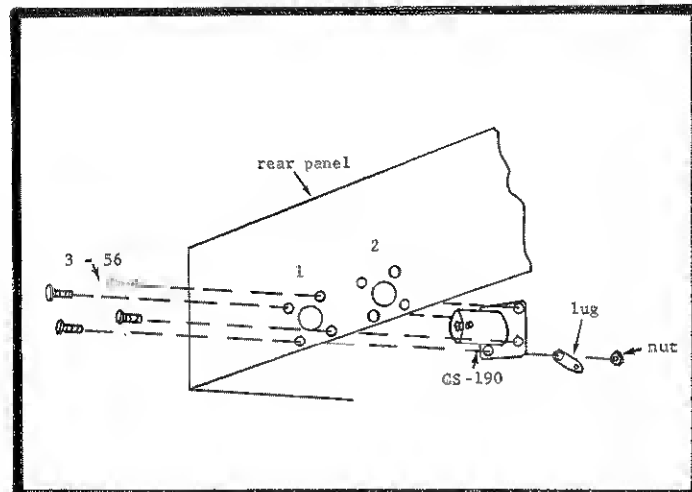

FIGURE 3. MHV Sockets Mounted to Model 246. The sockets, located in the rear panel, are used for remote programing.
a. Remove the plate over the punched holes on the Model 246 rear panel. These holes accept MHV connectors (No. UG-931/U, manufactured by most connector companies; Keithley part number CS-190). Mating connectors are UG-932/U (manufactured by most connector companies; Keithley part number CS-191). Use a lug to ground the shields of the cables to the Model 246 chassis as shown in Figure 3. Use 3-56 screws and nuts to fasten the connectors to the rear panel; if not available, 2-56 screws and nuts are sufficient. Relocate the ac wires at the inside rear panel so that the connectors can be installed.
1. Attach the center conductor of Cable #1 (end A) to the center pin of connector #2 (refer to Figure 3). Connect the shield of the cable to the ground lug.
- a. Remove the plate over the punched holes on the Model 246 rear panel. These holes accept MHV connectors (No. UG-931/U, manufactured by most connector manufacturers; Keithley part number CS-190). Mating connectors are UG-932/U (manufactured by most connector manufacturers; Keithley part number CS-191). Use a lug to ground the shield of the cables to the Model 246 chassis as shown in Figure 3. Use 3-56 screws and nuts to fasten the connectors to the rear panel; if not available, 2-56 screws and nuts are sufficient. Relocate the ac wires at the inside rear panel so that the connectors can be installed.
1. Attach either end of cable #3, the 7-inch cable, to connector #2 (Figure 3).
2. Attach either end of cable #4, the 8-inch cable, to connector #1 (Figure 3).